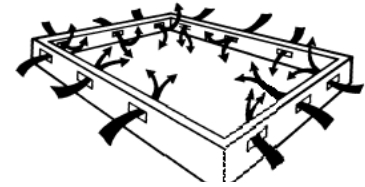

Figure 1
- Crawl spaces must be a minimum of 450 mm (18") from the ground to underside of joists. A ground cover of 6-8 mm polyethylene film is essential as a vapor barrier with joints lapped 200 mm (8") and taped. The crawl space should have perimeter venting equal to a minimum of 1.5% of the crawl space square footage. These vents should be properly located to foster cross ventilation (see figure 1). Local regulations may prevail.